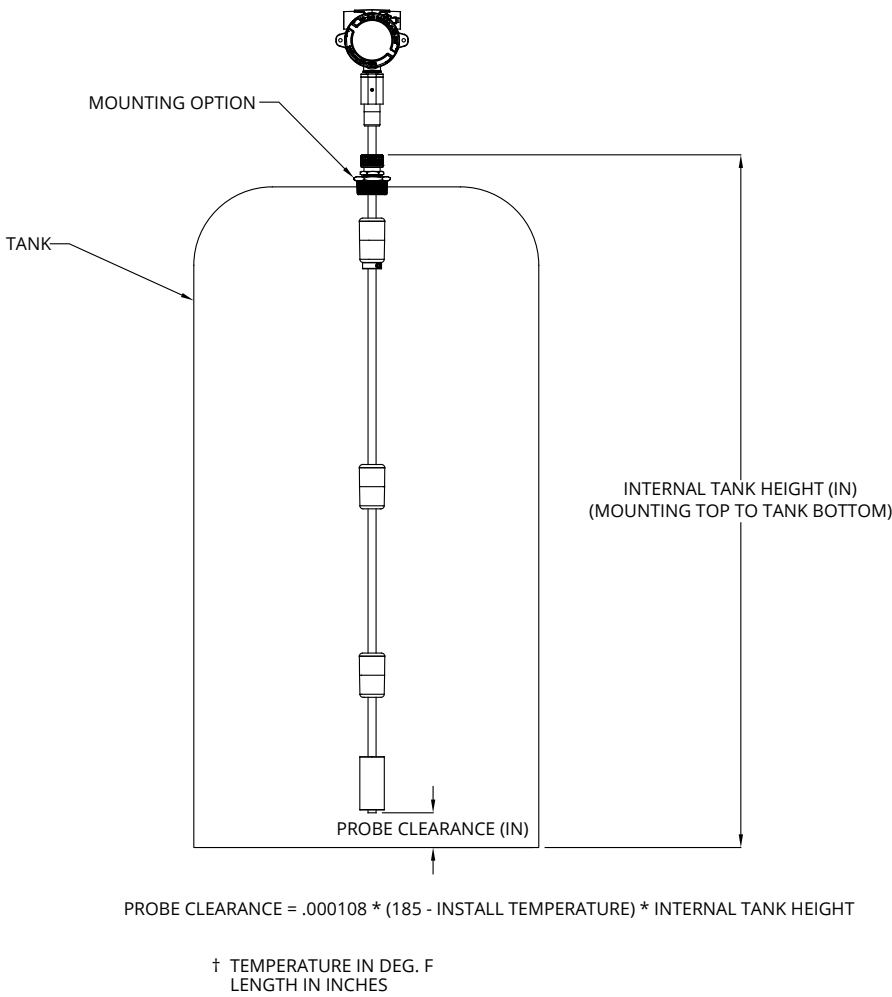

Figure 7.1
Prior to installing a PVDF-stem MPXI-F, the interior, mid-column temperature of the tank must be measured to determine the amount clearance needed at the bottom of the probe for thermal expansion. See Figure 7.1.
- Use formula in Figure 7.1 to determine necessary clearance from bottom of probe to interior tank bottom.